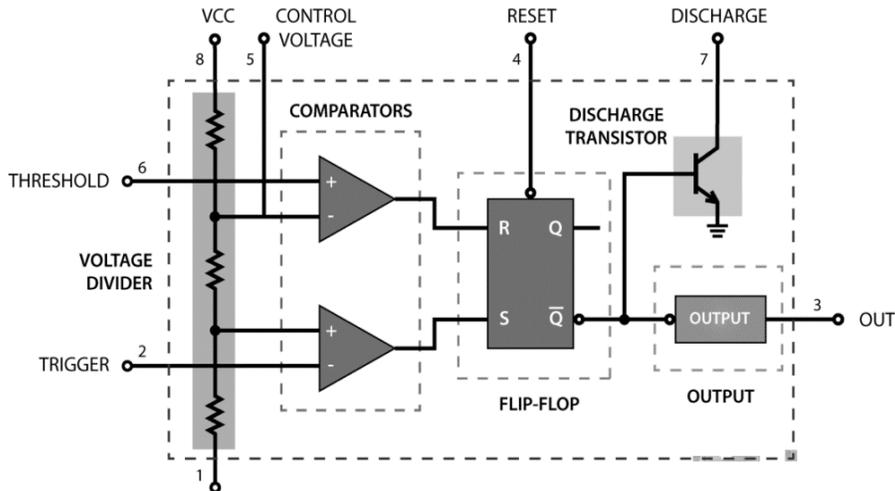

Figure 4
The 555 Timer is a highly stable integrated circuit that can produce accurate time delays and oscillations. The 555 Timer has three operating modes, bistable, monostable and astable mode. As represented in figure 4 (block diagram), it has two comparators, a flip-flop and a voltage divider, a discharge transistor and an output stage. It is an 8-pin integrated circuit (IC).